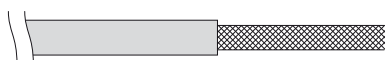

Fig. 4-9
- (1) Remove cable coat not to scratch braided shield. (Fig. 4-9)